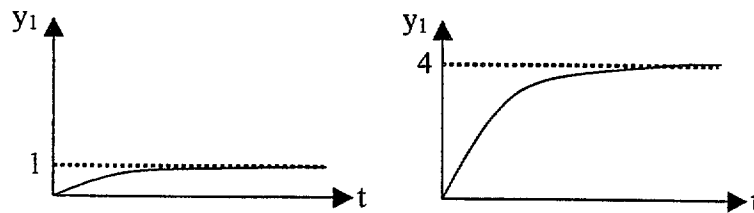

Figure 4. Step responses for multivariable system.
- i) With both loops open, m_2 is kept constant and a unit step in m_1 is introduced and the response in y_1 is recorded. The response is given to the left in Figure 4.
- ii) With y_2 assumed perfectly controlled using m_2 , a unit step in m_1 is introduced and the response in y_1 is recorded. The response is given to the right in Figure 4.
b) Calculate the Relative Gain Array for the process from the step responses in Figure 4. [5]